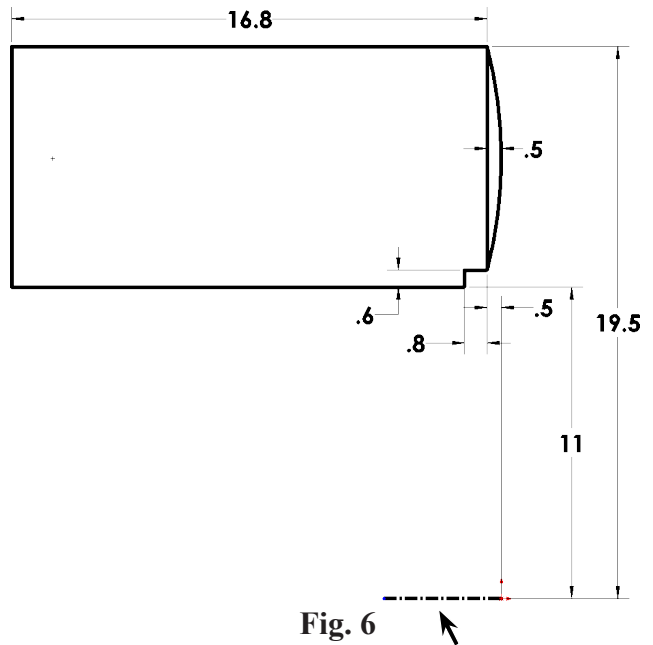

Fig. 6
Step 1. Click **Centerline**  (S) in the **Line flyout**  on the Sketch toolbar.
Step 2. Sketch a horizontal centerline out from **Origin**  , **Fig. 6**.